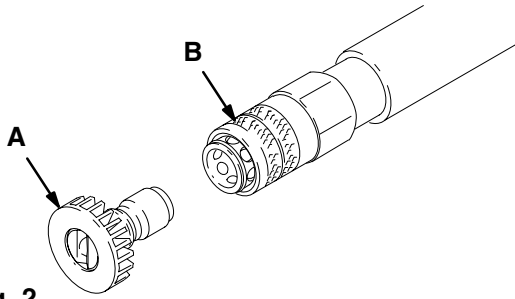

Fig. 2
- Without holding your hand over the spray tip (A), pull back the quick coupler ring (B). Remove the current tip, and install a different one. Then push back the ring. See Fig. 2.